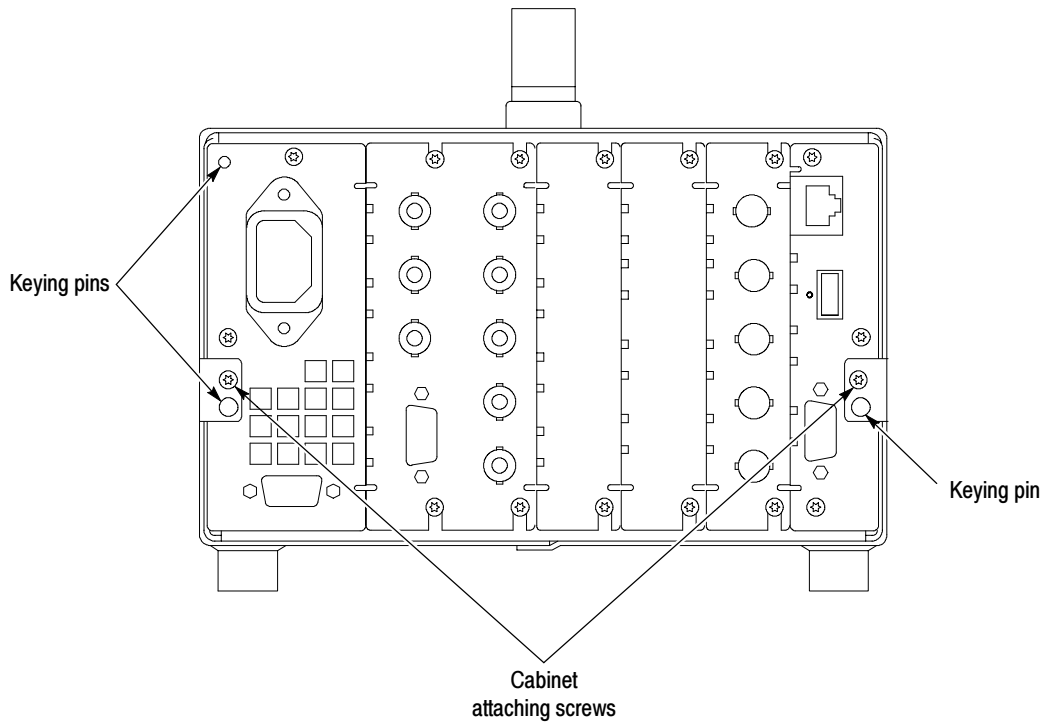

Figure 2: Rear panel attaching screws
CAUTION. *Do not force the instrument into the cabinet. Key pins on the WFM7F02 cabinet tabs (shown in Figure 2) are designed work only with a WFM700 instrument. Attempting to force an instrument into the cabinet may damage the tabs.*
3. At the rear of the cabinet, install the two attaching screws through the left and right tabs and into the instrument chassis. See Figure 2.